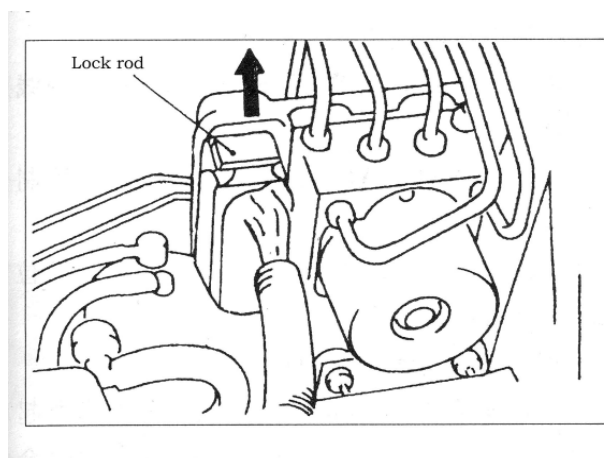

Fig. 16-60
- (1) Lift up the vehicle and release the parking brake.
- (2) Draw out the lever of locking rod of ABS-HECU connector as shown Fig 16-60, disconnect ABS-HECU connector.